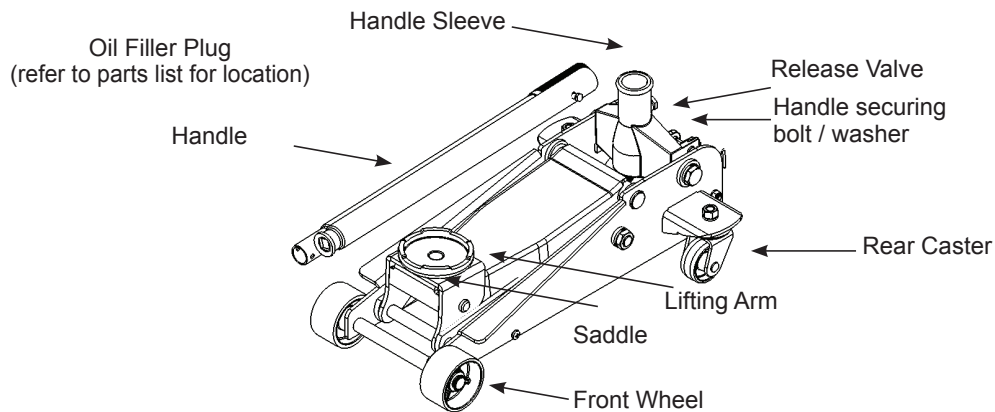

Figure 1 - Typical Floor Jack Nomenclature
3. Verify the product and your application are compatible. If in doubt, contact Pro-Lift Customer Support @ (816) 891-6390.
6. Ratchet bar/collar lock is accomplished by bending the press tab (Fig.1) inward using a suitable hammer and punch. This will prevent inadvertent loss of the ratchet bar.